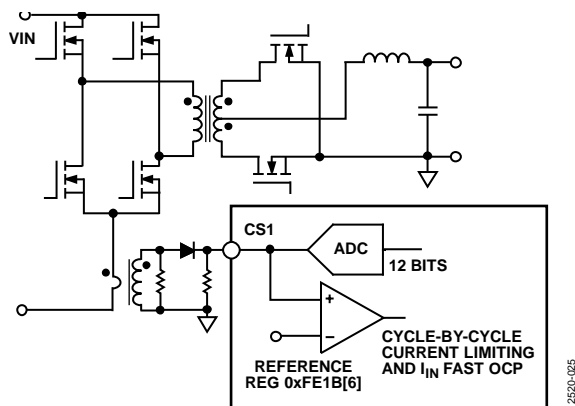

Figure 25. CS1 Operation
Current Sense 1 (CS1) is typically used for the monitoring and protection of the primary side current, which is commonly sensed using a current transformer (CT). The input signal at the CS1 pin is fed into an ADC for current monitoring. The range of the ADC is 0 V to 1.60 V. The input signal is also fed into an analog comparator for cycle-by-cycle current limiting and  $I_{IN}$  overcurrent fast protection, with a reference of 0.25 V or 1.2 V set by Register 0xFE1B[6]. The typical configuration for the CS1 current sense is shown in Figure 25.